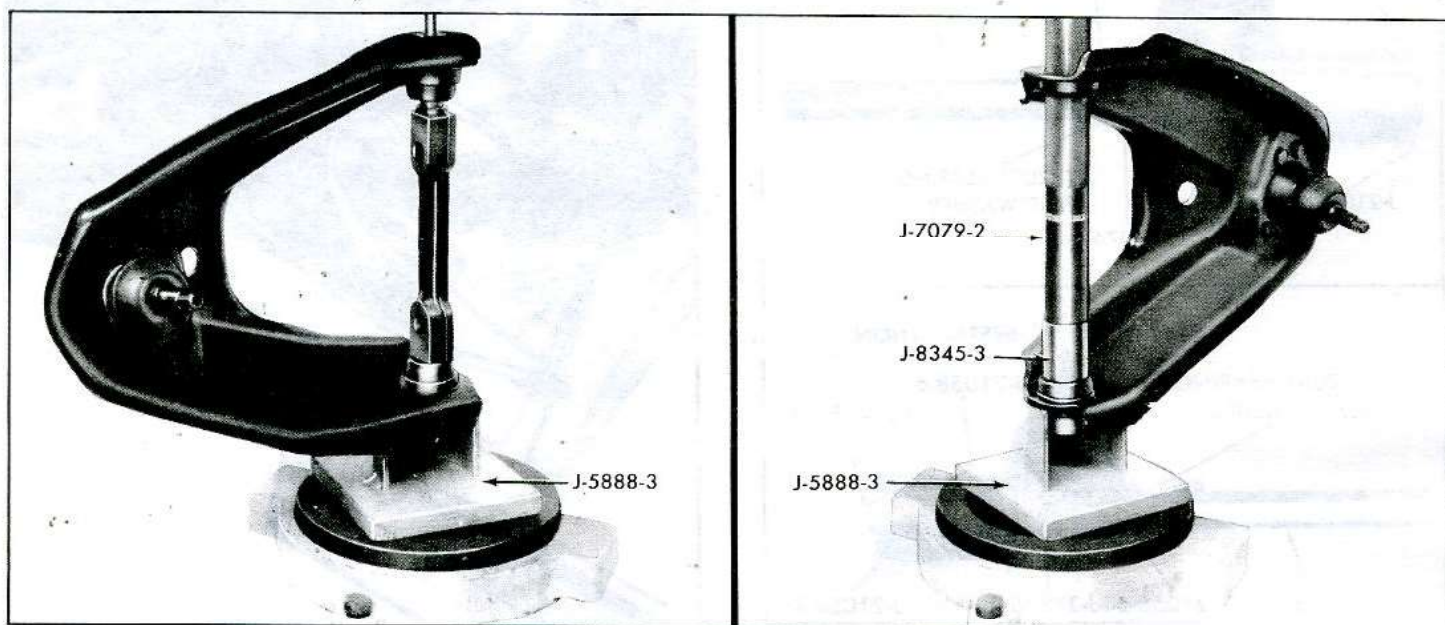

Fig. 3-22—Removing Upper Control Arm Bushings
12. Set arm in place on Tool J-5888-3 and press out bushing as shown in Figure 3-22.
13. Turn control arm over (as shown in Figure 3-22) and using Tool J-8345-3 and Tool J-7079-2, press out second bushing using J-5888-3 as a support.